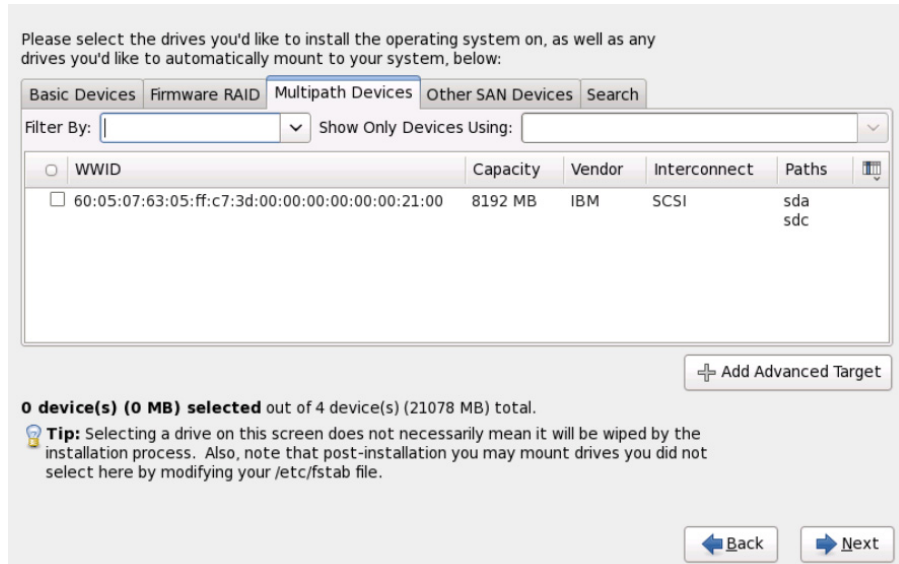

Figure 44 Selecting Multipath Devices
- Then select the remote device in **Other SAN Devices** or in **Multipath Devices**, as shown in Figure 44.